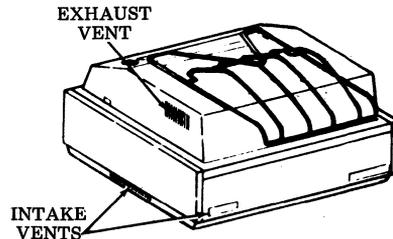

Fig. 1—Air Vents
2.03 Table top arrangement only — turn switch on and check cabinet fan operation. Air should exit from the exhaust vent on the right side of the cabinet (Fig. 1). Check that intake and exhaust vents are not blocked.